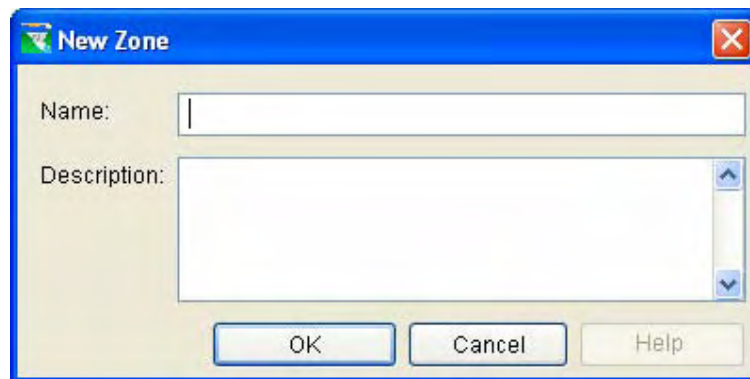

Figure 11.7 New Zone
1. Select **New** from the **Zone** menu of the Reservoir Editor. The **New Zone** dialog box will open (Figure 11.7).